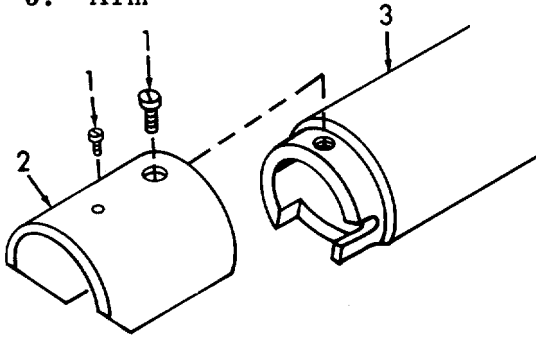

Figure 6-95. Latch Guard and Latch, Removal.
a. Removal (Refer to Figures 6-95 through 6-97).
- (1) Refer to Figure 6-95. Remove two screws (1) securing latch guard (2) to lower arm (3).
- (2) Carefully slide latch guard (2) forward from lower arm (3).